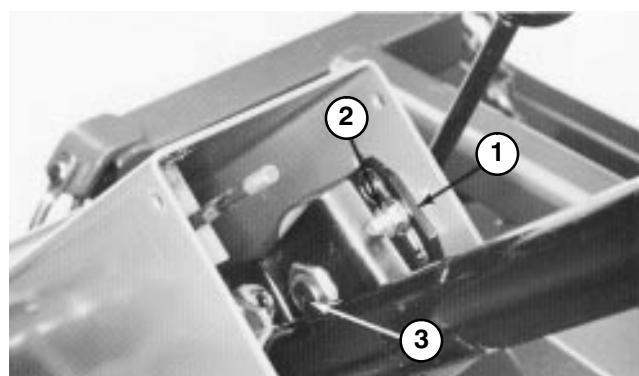

Figure 59
- 1. Remove knob from parking brake and self tapping screws from steering column cover. Slide cover up steering shaft to expose pivot bracket (Fig. 59).
- 2. Loosen small nut, rotate pivot bracket until it tightens large nut below (Fig. 59). Retighten small nut.